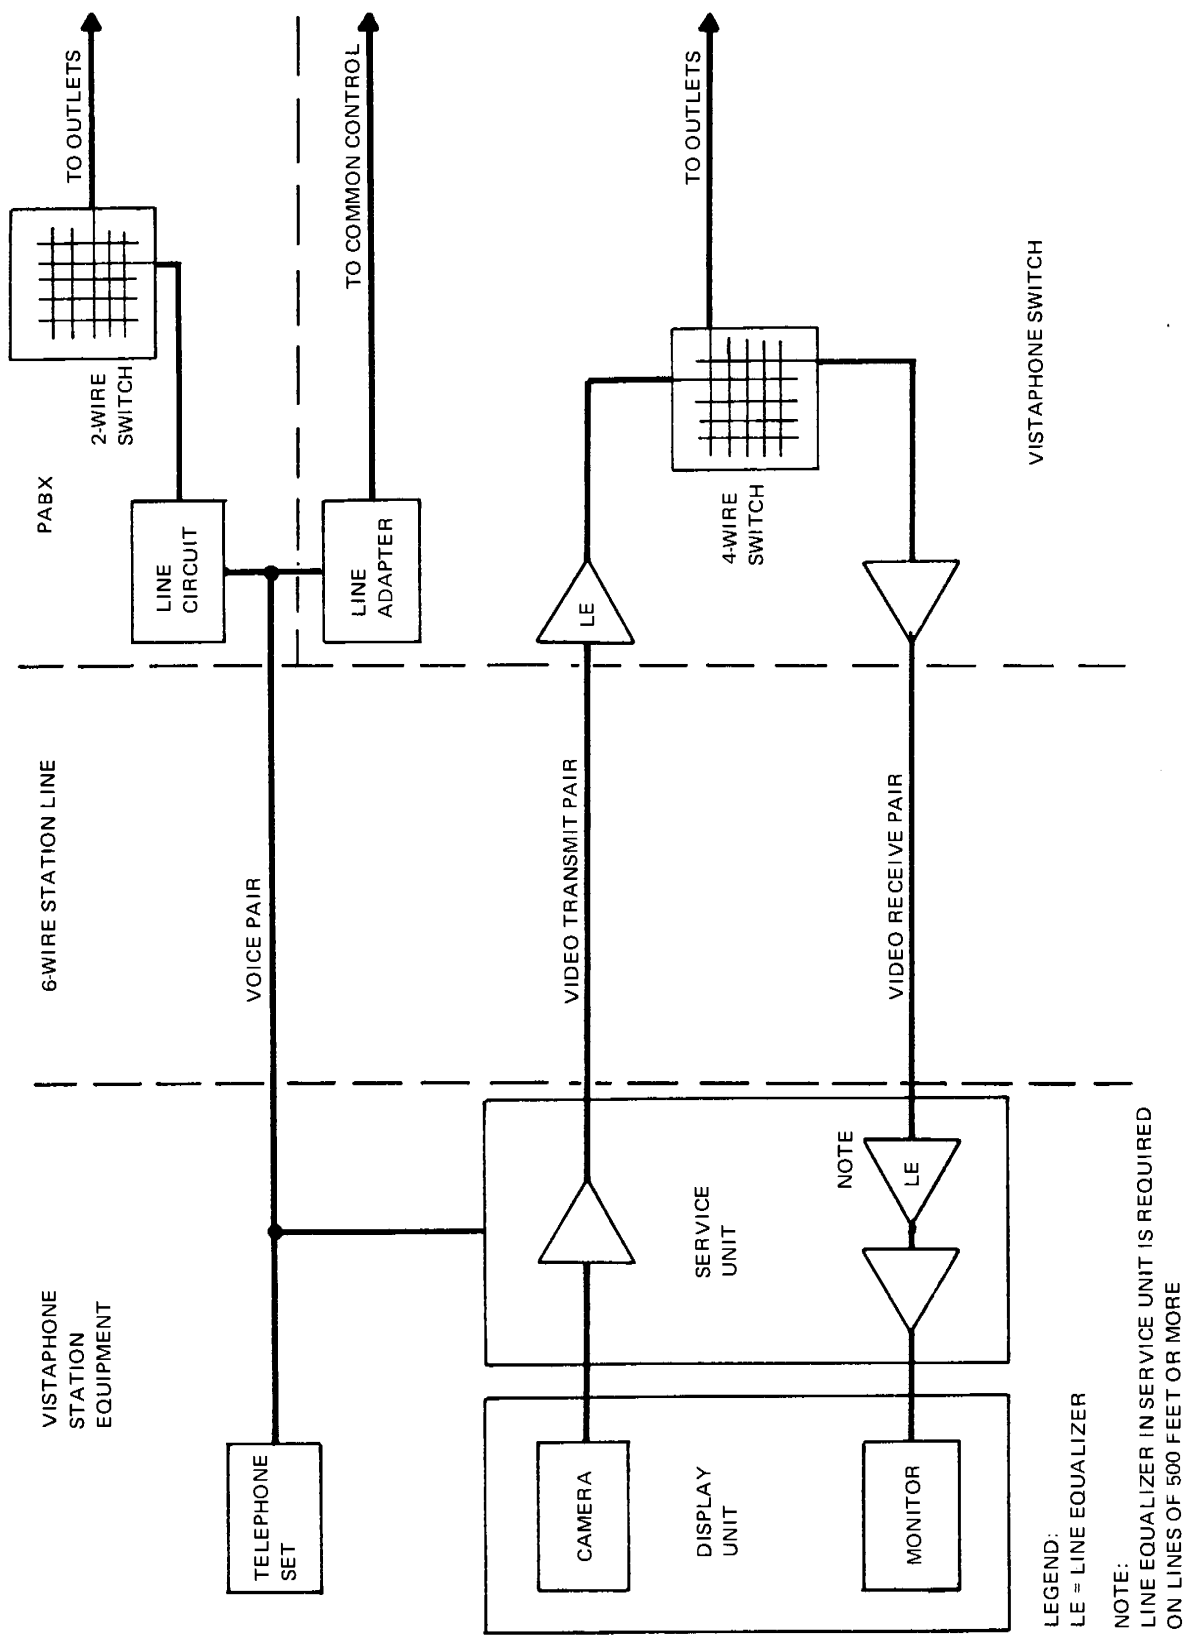

Figure 3. Station Line.
5.01 The VISTAPHONE station equipment is connected to switching equipment at the PBX by a 6-wire station line (fig. 3). The voice and video cable pairs can be 22-, 24-, or 26-gauge wire. On station lines of 500 feet or more, line equalizers, which are added to the service unit, must be inserted in the video pairs to overcome transmission impairment that can occur on long lines. With the use of equalizers in the service unit, station lines of approximately 3500, 4000, and 5000 feet can be obtained, depending on whether 26-, 24-, or 22-gauge pairs are used. (Refer to paragraph 7, Transmission Considerations.)